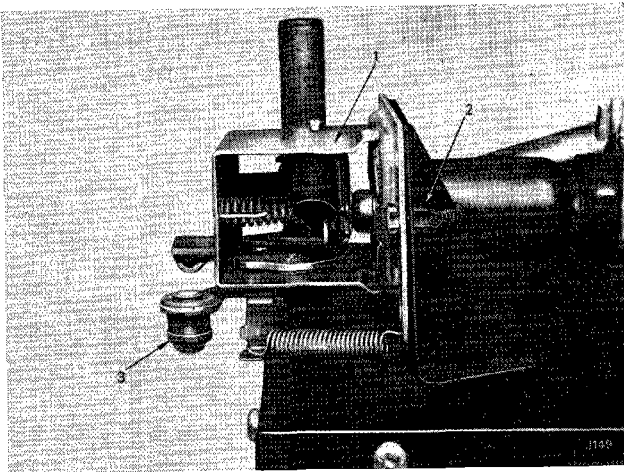
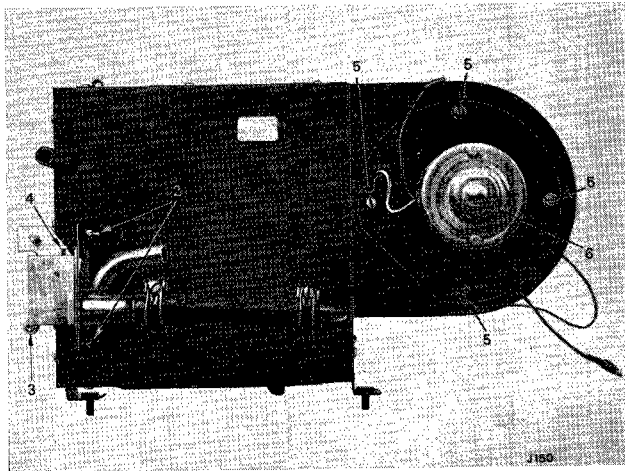

Fig. 125. Water control valve (Delaney Gallay)
Fig. 126. Heater Unit (Delaney Gallay)
To Remove (Fig. 125)
The heat control shut-off adjusting screw (4) (Fig. 126) on the water valve is pre-set by the manufacturer prior to delivery. If adjustment is necessary, proceed as follows:
Disconnect the heat control cable at the water valve and move the water valve lever (3) (Fig. 125) fully clockwise. Screw the adjusting screw (4) (Fig. 126) down onto its stop. Re-connect the heat control cable and tighten the trunnion. Finally, test the operation.
To Remove (Fig. 126)